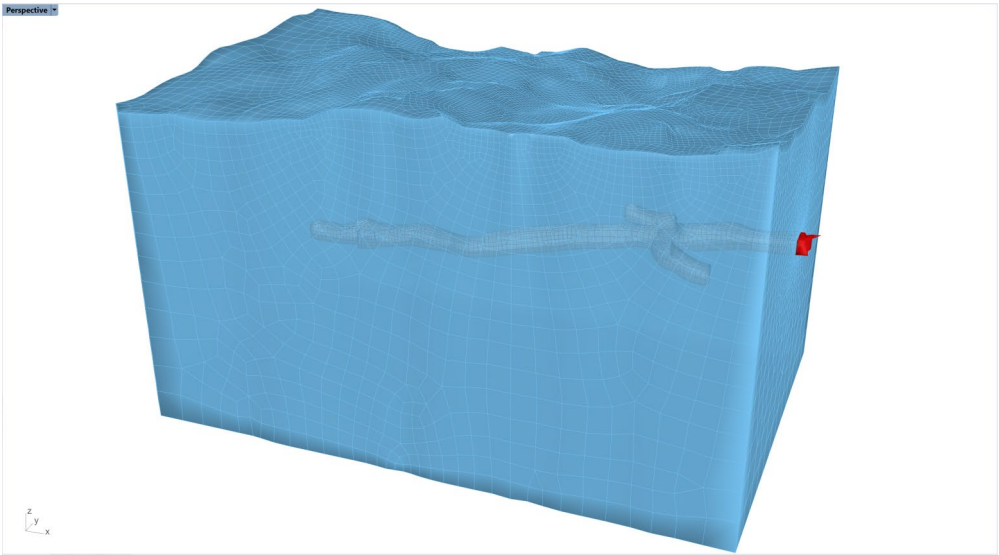

Figure 73: Meshes separated with the `_GExtract` command.
21. Select all meshes and use *Griddle*'s command **\_ColorizeObjects** or click on the  icon in the *Griddle* toolbar. This will assign a unique color to each mesh piece (Figure 73).